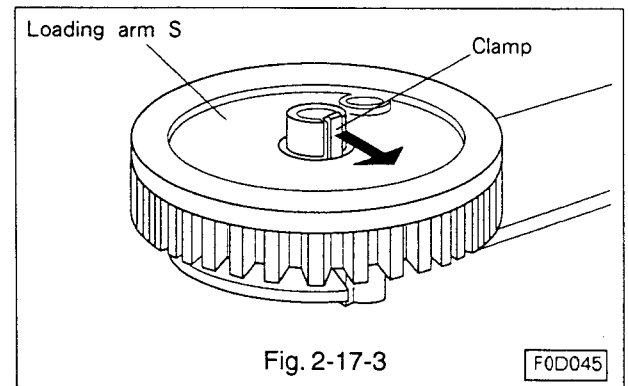

Fig. 2-17-3
- G. Unfasten the clamp shown in Fig. 2-17-3, and remove the loading arm S.